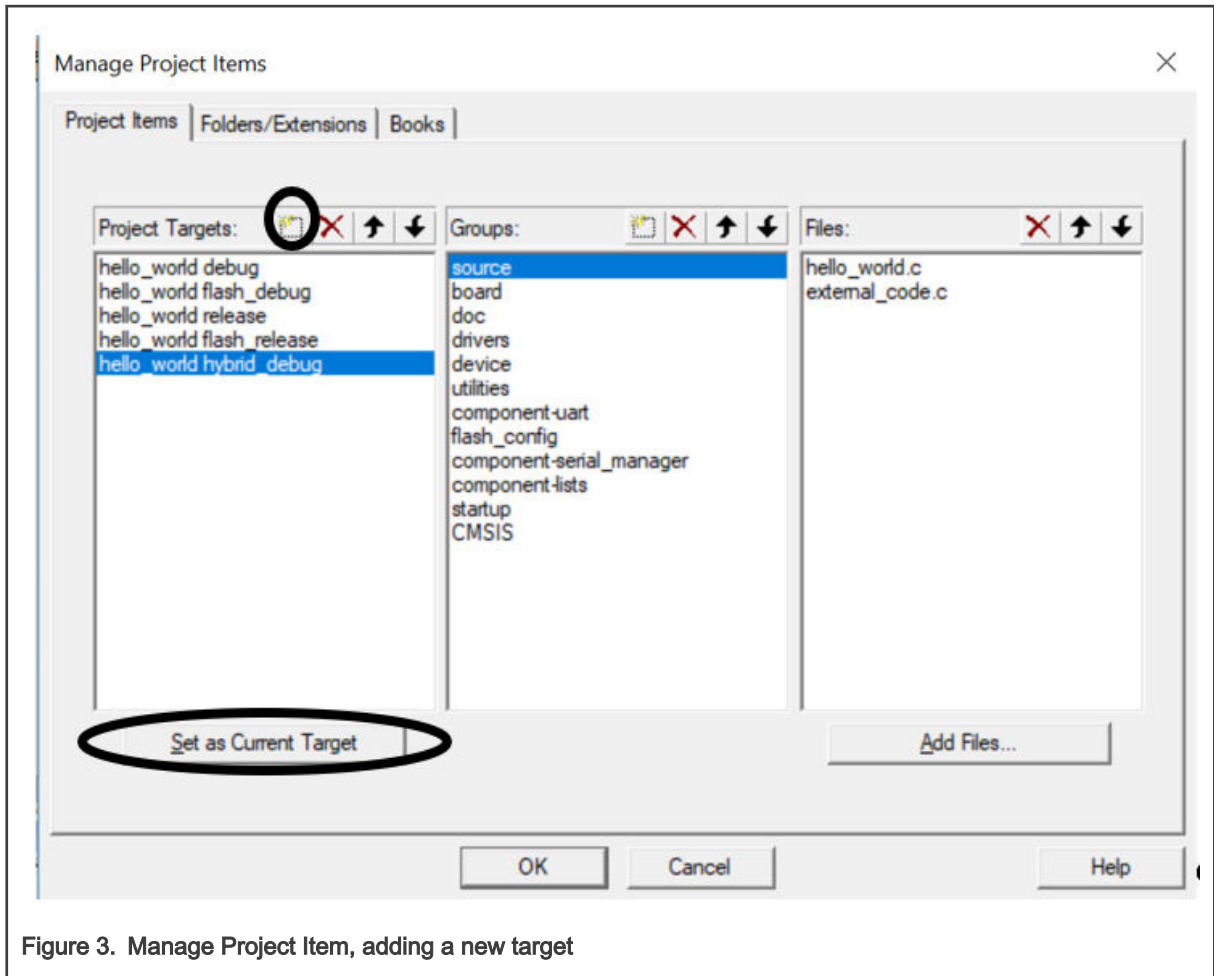

Figure 3. Manage Project Item, adding a new target
- b. This window gives you the option to add your own targets to the “ Project Targets ” list. Create a new target and select it as the current target as shown in Figure 3.